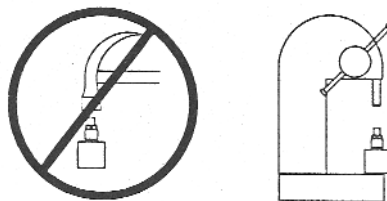

Figure 4: How **NOT** to Insert the Shaft Into the Internal Magnet
2) Of the two shafts supplied, insert the one with the wider lip into the impeller end. The other shaft is to be inserted into the internal magnet. Not that the shaft in the impeller end should be recessed, the shaft will deform if it is used as the base (**Figure 4.**) If a arbor press is used, be sure to cushion the end contacting the shaft. Shafts are supplied as a set of two for this pump design.